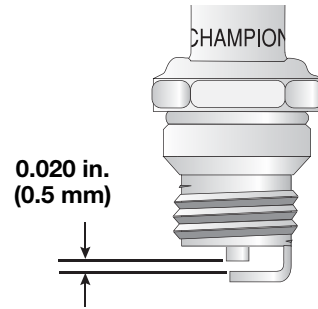

Fig. 12
3. Replace a cracked, fouled or dirty spark plug. Set the air gap at **0.020 in. (0.5 mm)** using a feeler gauge (Fig. 12).